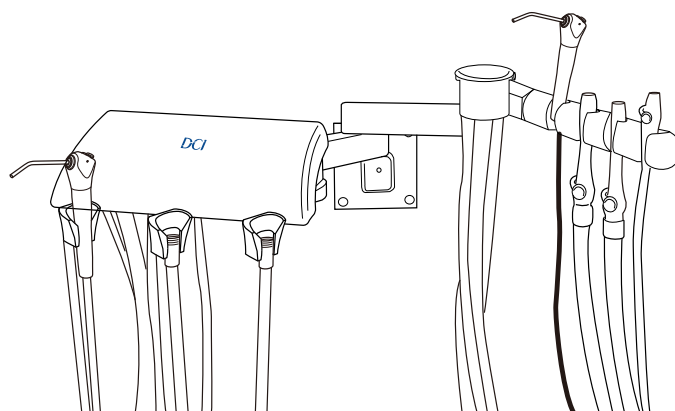

Figure 3
4. **Install dental delivery system head and assistant package** (see Figure 3).